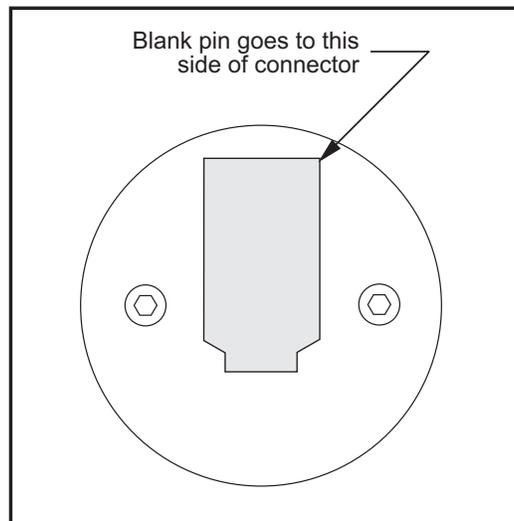

Figure 4.5-2 Jog handle encoder.
3. Unplug the cable leading to the jog handle encoder. **IMPORTANT!** The blank pin side of the connector must face as shown in Fig. 4.5-2 when reconnecting; otherwise, damage may occur to the machine.